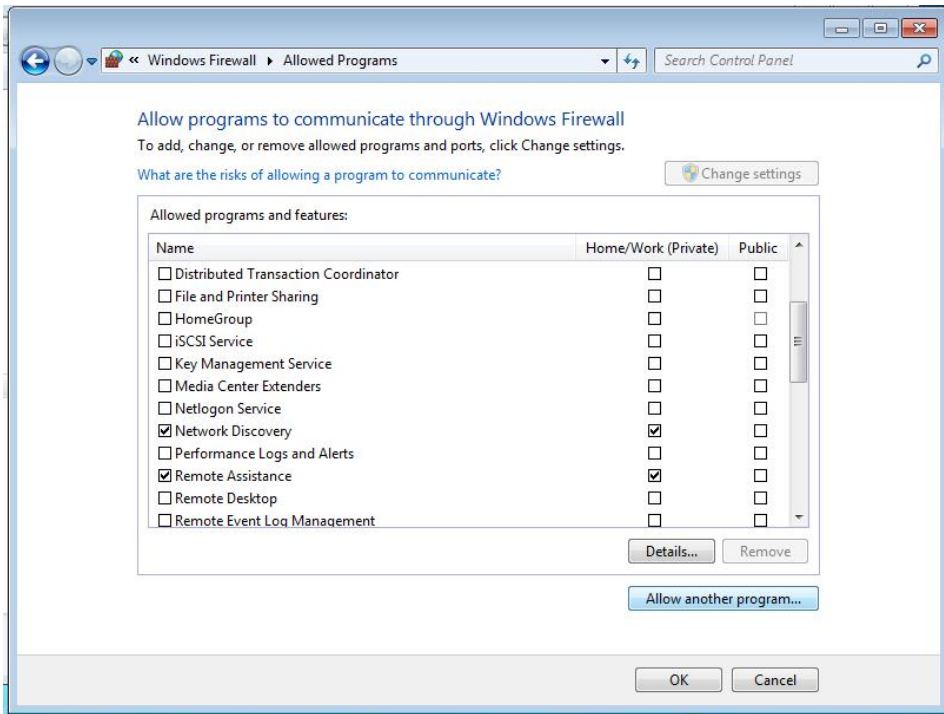

Fig.1.17 Allowed Programs
(5) Click "Changes settings" button and "Allow another program" button (see Fig.1.17). Then add "SQLServr.exe" to the list of allowed list according to the path "C:\Program Files\Microsoft SQL Server\MSSQL10.SQLEXPRESS\MSSQL\Binn\sqlservr.exe"